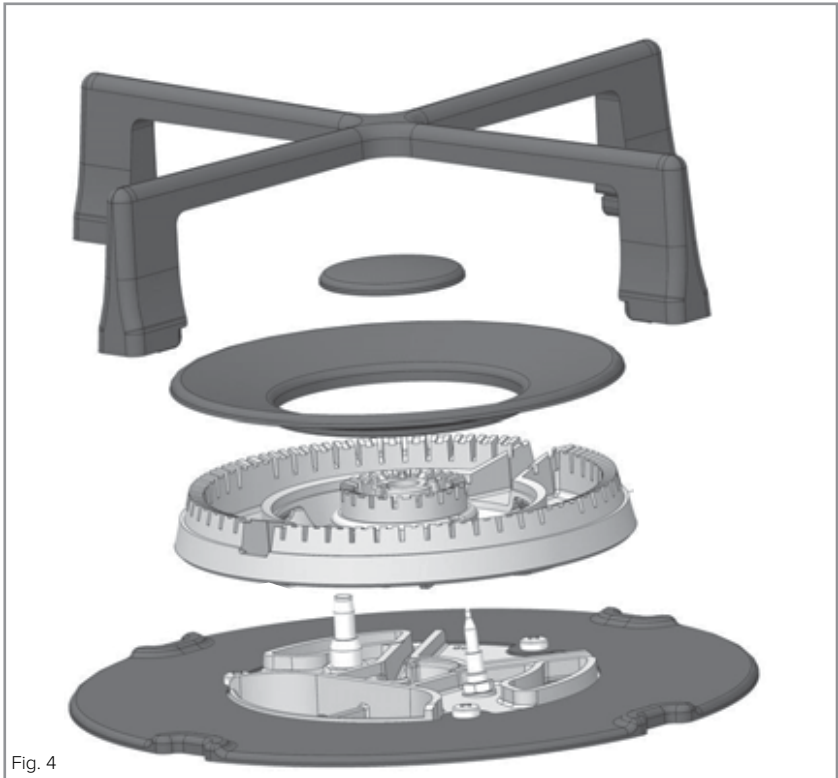

Fig. 4
- Mount all the parts of the burner as in Fig. 4 below.